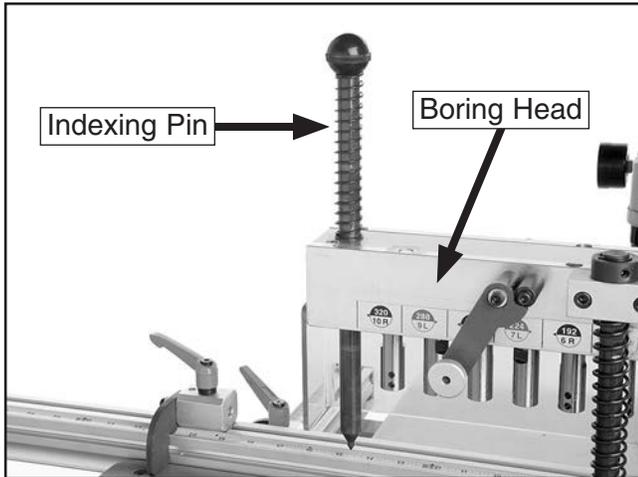

Figure 12. Indexing pin mounted in the boring head.
7. Slide the indexing pins into the holes at the ends of the boring head, as shown in **Figure 12**.